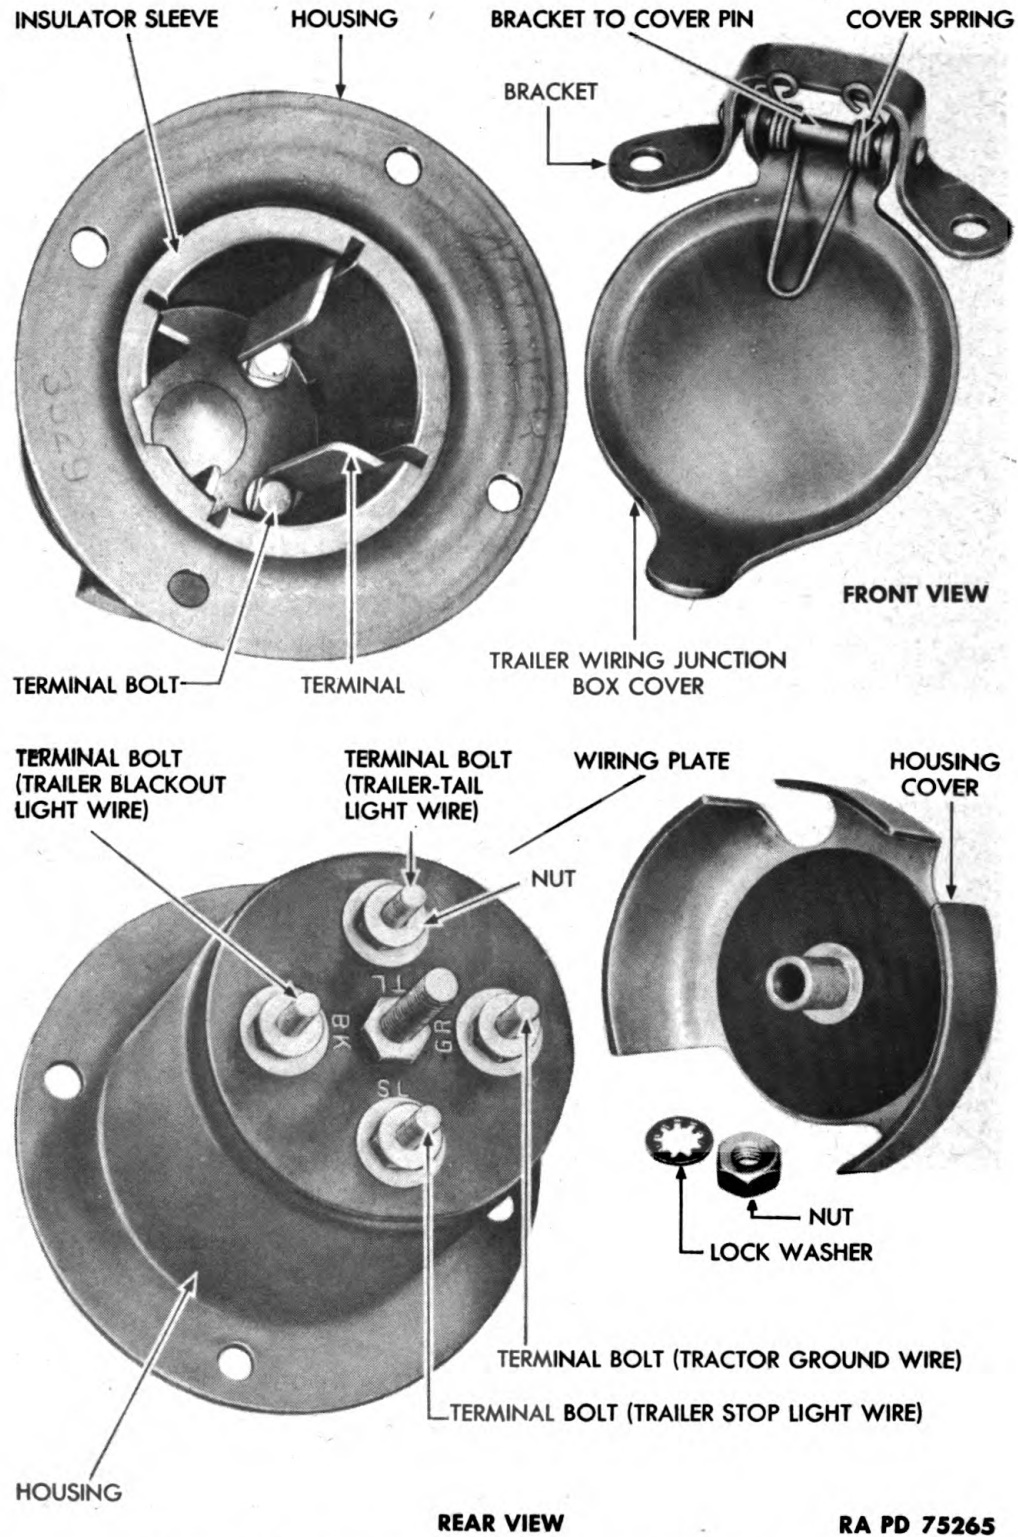

Figure 75 – Trailer Wiring Junction Box and Cover
(1) **TRAILER WIRING JUNCTION BOX COVER (fig. 75).** Drive bracket to cover pin out of cover and bracket, and remove trailer wiring junction box cover from trailer wiring junction box along with cover spring and bracket.
(2) **DISASSEMBLE TRAILER WIRING JUNCTION BOX (figs. 75 and 76).** Remove a brass washer and a lock washer from each of four terminal bolts, then remove a nut and plain washer from each of four terminal bolts. Pull four terminals with terminal bolts out of insulator sleeve, and pull insulator sleeve out of housing. Remove nut from housing cover bolt, and remove wiring plate and housing cover bolt from housing.
(1) **TRAILER WIRING JUNCTION BOX COVER (figs. 75 and 76).** Install bracket to cover pin through one side of trailer wiring junction box cover and bracket, and install cover spring on pin. Push pin through opposite side of cover and bracket, then rivet pin onto cover.
(2) **TRAILER WIRING JUNCTION BOX (figs. 75 and 76).** Install housing cover bolt in housing, then install wiring plate on housing. Install nut on bolt. Install insulator sleeve in housing so that long lug on sleeve passes through large hole in plate. Install terminal bolt on terminal, and install terminal in insulator sleeve so that notched portion of terminal is in slot of insulator sleeve. Install plain washer on terminal bolt, then install nut on bolt. Repeat procedure on remaining three terminals, then install four lock washers and four brass washers on each of four terminal bolts.